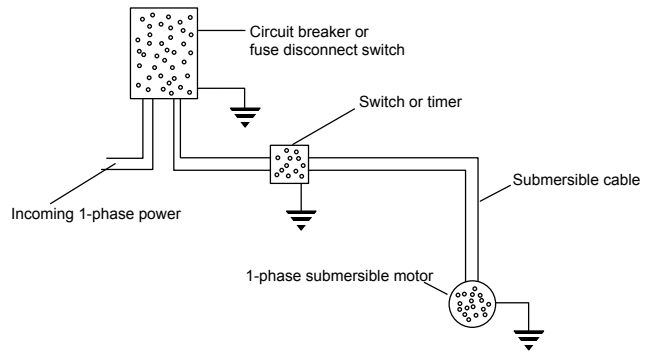

FIGURE 2
3. Make sure power supply is turned off and circuit breaker or disconnect switch is open. Make electrical connections appropriate to your motor as shown in Figure 2.
7. A two-wire pump does not require a motor control box; all electrical components are built inside the motor. Figure 2 shows a typical wiring diagram for a two-wire installation.